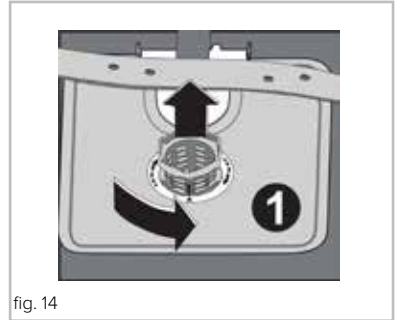

fig. 14
2. Turn the micro-filter anti-clockwise and then lift it out as in figure 14.